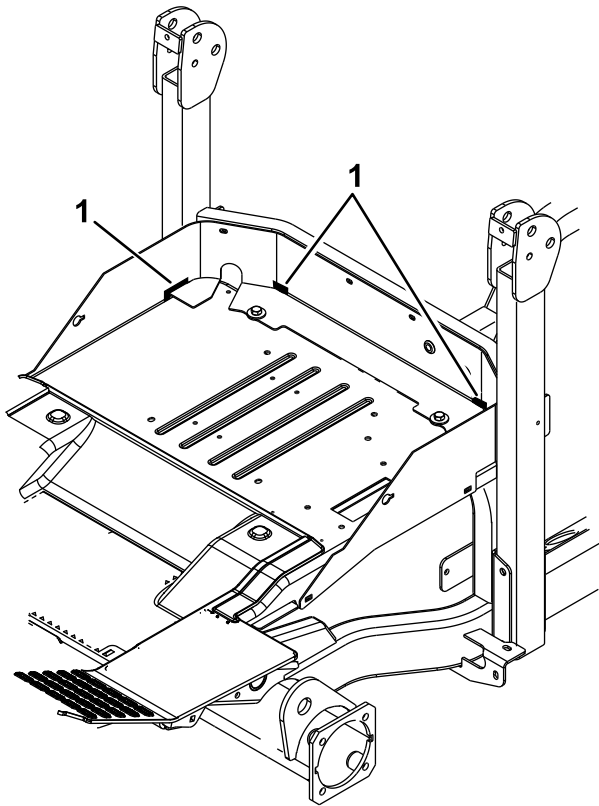

Figure 7
1. Caulk the existing firewall openings on both sides at the locations shown in Figure 7 with black RTV sealant.